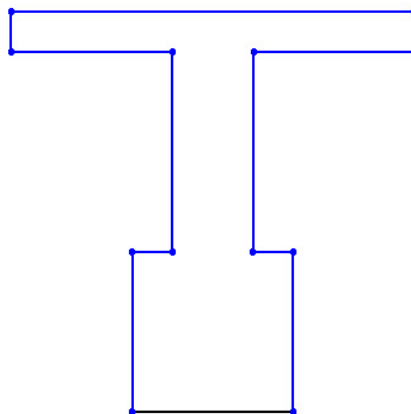

Figure 3 Base sketch for the revolved model
16. Choose the **Zoom to Fit**  button from the View toolbar to fit the sketch on the screen. The completed sketch for this Tutorial is shown in Figure 3.
To create a 3-D Model from the Base sketch shown in Figure 3, we will first draw an axis of revolution and then revolve the sketch around the axis.